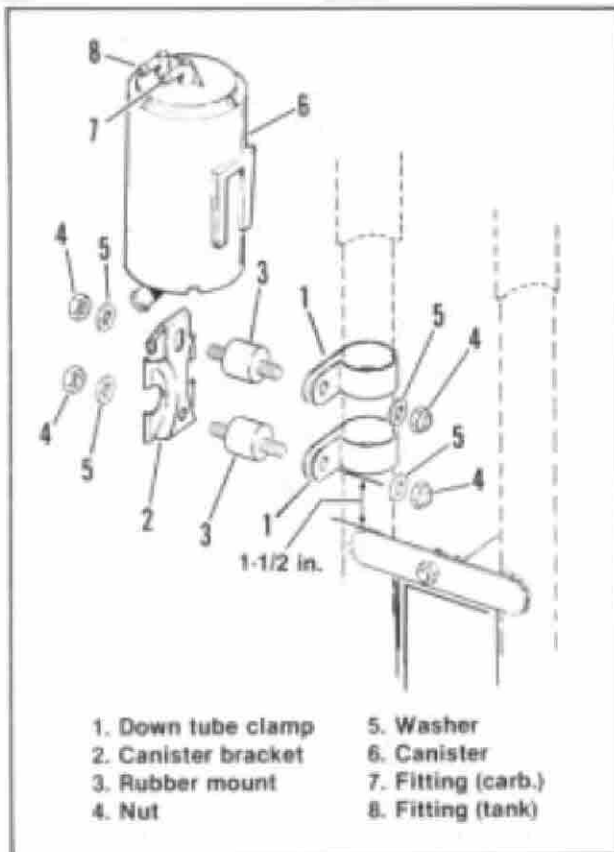

Figure 6. Canister Mounting
1. See Figure 6. Place two clamps (1) around left down tube.
2. Place the rubber mount stud ends (3) through clamps (1) and bracket (2).